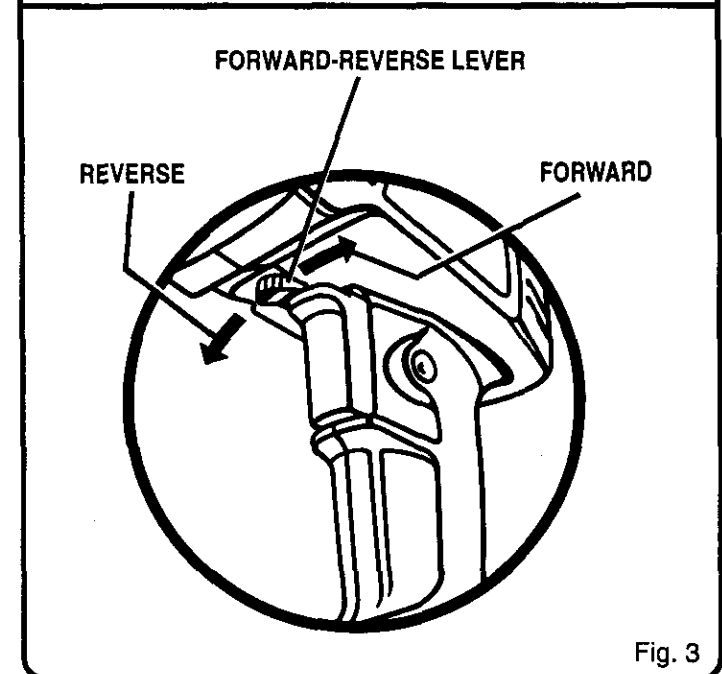

Fig. 3
See Figure 3.
2. Check the direction of rotation lever for correct setting (forward or reverse). See Figure 3.